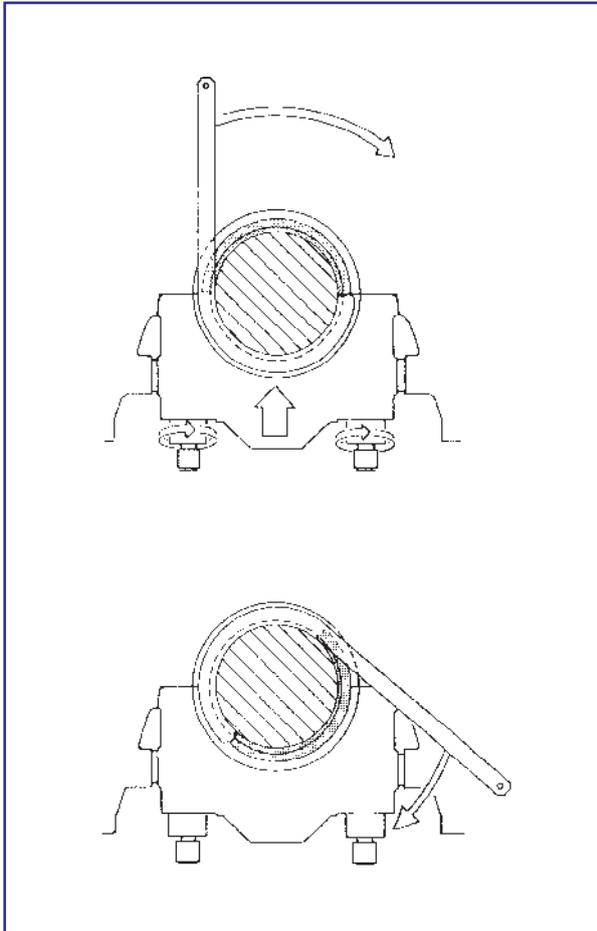

Fig 4 Dismounting of Upper Shell
- 12) Fit the tools for dismantling of upper guide bearing shell, see fig 4, in the bearing cap and raise the bearing cap into position, making sure that the guide shell is not being damaged.